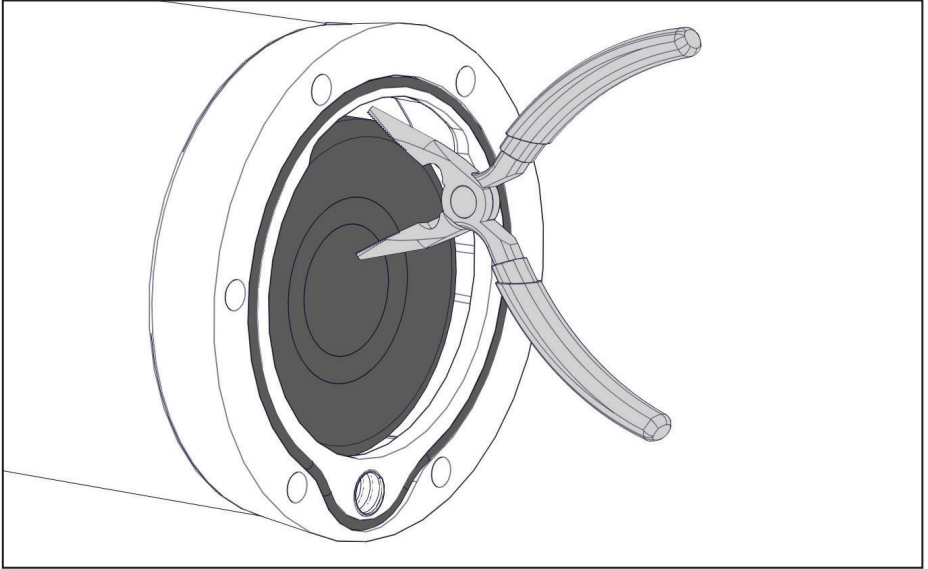

Figure 31 — Replacing the Coalescing filter spring
- Remove the Viton O-ring, coalescing element and wave spring from the AOST (Figure 31).